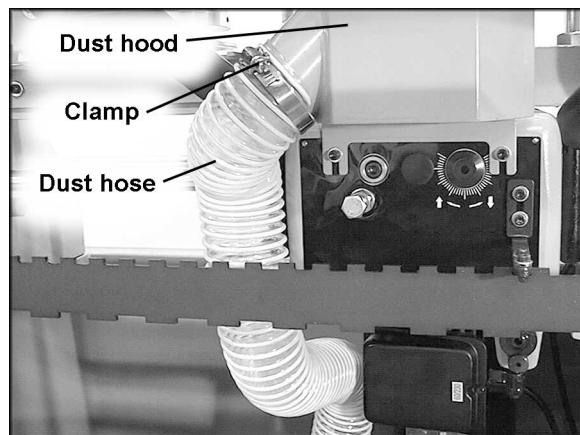

Figure 4
1. Slide the upper end of the hose over the chute on the dust hood (Figure 4).